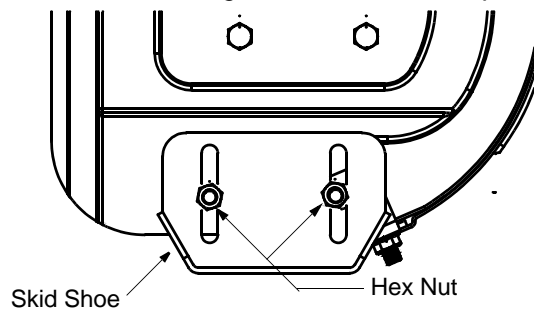

Figure 3
- Adjust skid shoes by loosening two hex nuts and carriage bolts on each skid shoe, and moving the skid shoe to the desired position. See Figure 3.